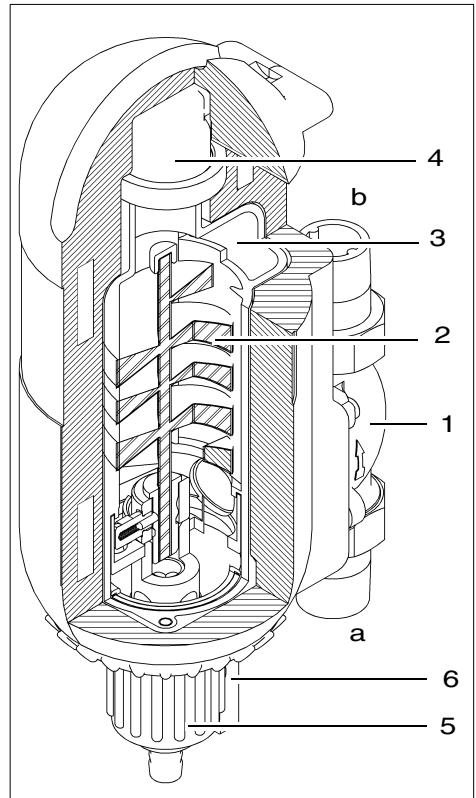

Fig. 5: Functional description
During the backwashing the heating water flows from the top downwards (reversed flow) through the round filter brush (2), this flushes the dirt particles downwards through the open ball valve. After approx. 2 to 3 litres of backwashing water have been flushed through the ball valve must be closed again tightly. Turn the handwheel (5) back to the right up to the limit stop. The filter is now in the operating position. The ball valve handle (6) is now back behind the filter (see Fig. 5).